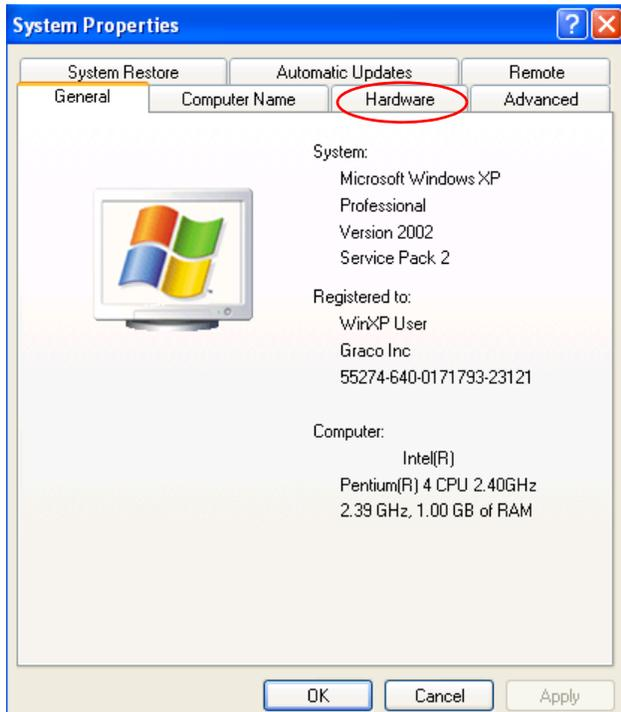

FIG. 4
2. On the “System Properties” menu, click the “Hardware” tab. See FIG. 4.